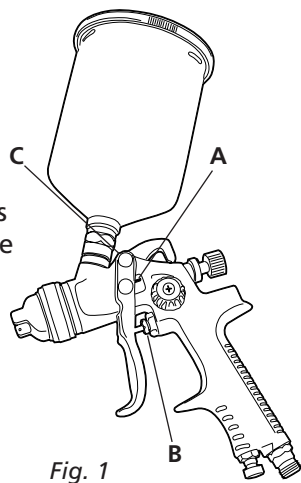

Fig. 1
- See Fig. 1 for Location of Above Points.